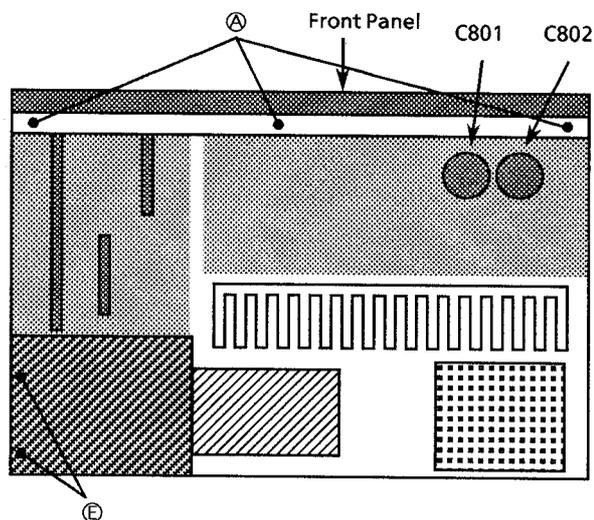
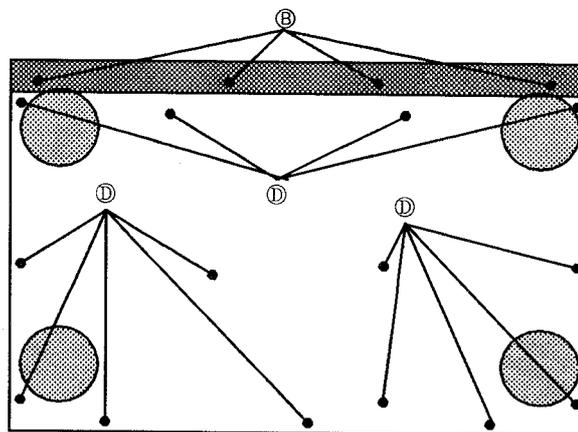

Fig 1. Top View
Fig 3. Bottom Cover
■ Removing the front panel (Fig 1, Fig 3)
2. Remove 3 plastic rivets (A) on the upper part of the front panel, and 4 screws from the lower part. (B), .
1. Remove 2 screws (C).
■ Removing the bottom plate (Fig 3)
1. Remove 14 screws (D).
● ENA-095 (Fig 1, Fig 3)